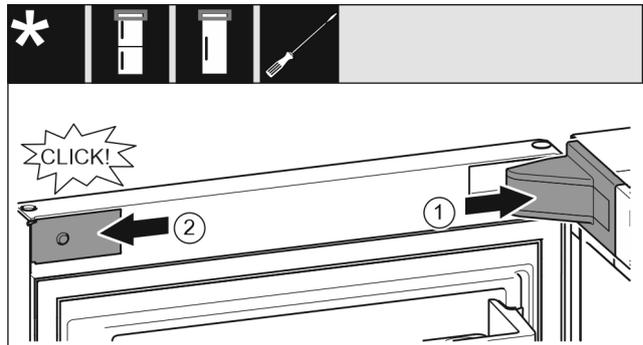

Fig. 34
- ▶ Put the swap bearing block cover on and engage, push apart carefully if required. Fig. 34 (1)
- ▶ Place the trim on the side and engage. Fig. 34 (2)